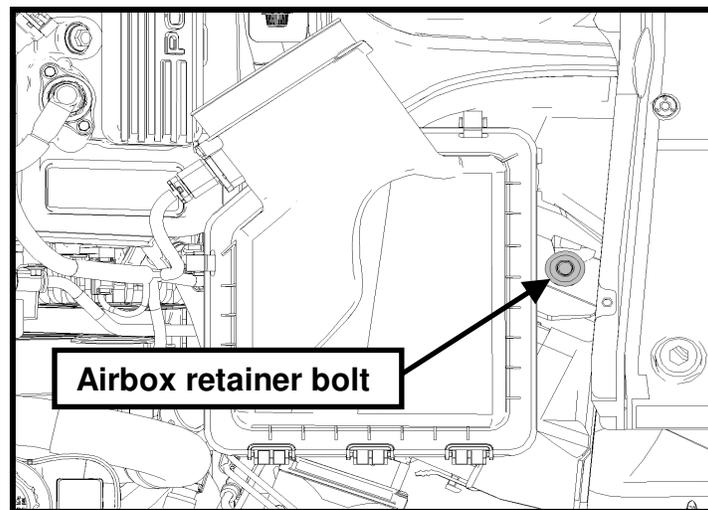

Fig. 2
**STEP 4:** Remove the airbox retainer bolt and airbox from vehicle (See Fig. 2).